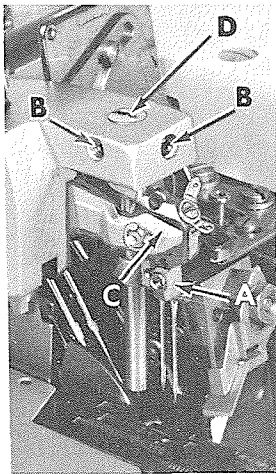
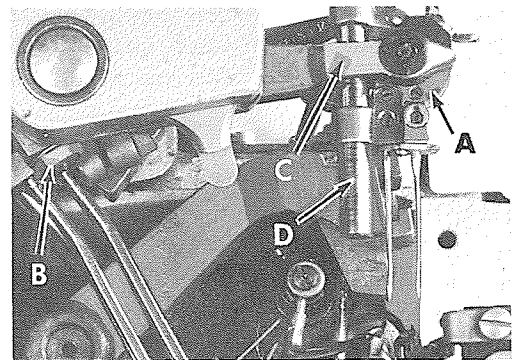
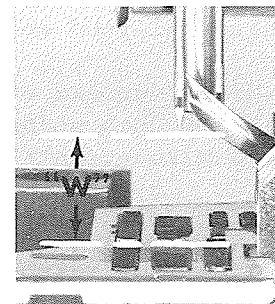

Fig. 5
Fig. 6
Fig. 7
With throat plate assembled in position, the needles should center in the throat plate needle slots (left to right). The needle head (A, Figs. 5 and 6) can be repositioned by loosening set screws (B, Fig. 5) and binder screw (B, Fig. 6) in needle drive lever (C, Figs. 5 and 6); then simultaneously turning needle head guide bar (D) which is an eccentric and sliding the needle drive lever (C) to the left or right on needle rock shaft as required to alleviate bind.
When proper left to right needle position is obtained, tighten set screws (B, Fig. 5) securely and tighten screw (B, Fig. 6) lightly. Needle drive lever (C, Figs. 5 & 6) must also be positioned to set height of needles above throat plate which should be 7/16 inch (11.11 mm) on Styles 39800 AA and AB; 17/32 inch (13.49 mm) on Styles 39800 AL, AN AP, AQ, AT, AW, AX, AY, VAL, VAN, VAQ, VAW, VAX and VAY with needles at top of stroke (W, Fig. 7). Tap the needle drive lever (C, Figs. 5 and 6) lightly up or down to obtain desired needle height. Needle gauge No. 21227 DD can be used by placing it on top of the throat plate and bringing the needle head bottom to rest on top of the gauge. This will have the needles at the bottom of their stroke. Note that the gauge has separate heights, one for high, the other for low capacity machines. Tighten screw (B, Fig. 6) securely.